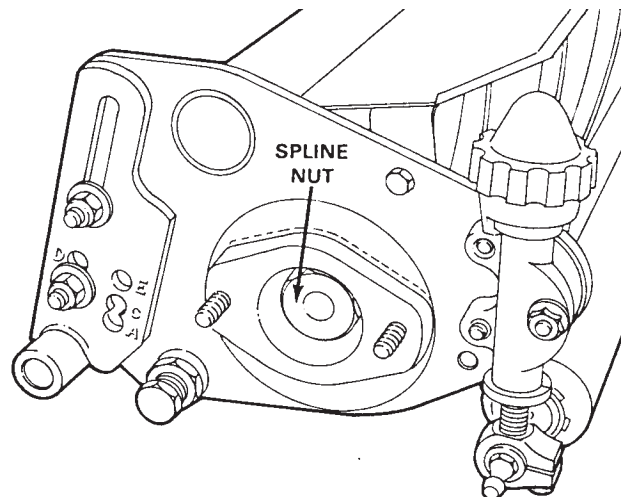

Figure 1
2. Tighten the spline nut on the right end of the cutting unit to 65-70 ft. lb. (Fig. 1).